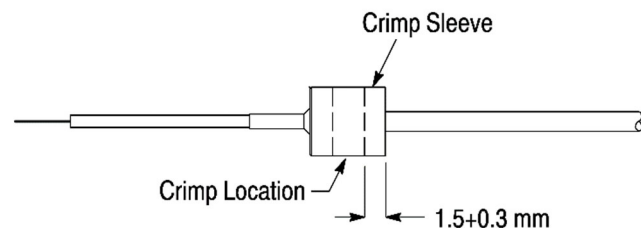

Figure 4
1. Slide the crimp support (large inside diameter end first) over the cable strength members until it butts against the jacket. See Figure 4, Detail A.
2. Fold the strength members back over the crimp support. See Figure 4, Detail B.
3. Cut a length of  $50 \pm 1$  mm of the PTFE tubing. Make sure that the cut end is free of burrs. Apply 1 or 2 drops of LOCTITE Adhesive 496 to the outside of one end of the tubing, and immediately insert that end into the small diameter end of the fiber sleeve until it bottoms. See Figure 4, Detail C. Allow the adhesive to cure for 30 seconds.
4. Using the tubing cutter, cut the cable fiber tube to the dimension shown in Figure 4, Detail D, exposing the coated fiber. Be careful not to break the coated fiber.
6. Apply 1 drop of LOCTITE Adhesive 480 to the coated fiber at the end of the fiber tube. Refer to Figure 4, Detail D.
7. Slide the fiber sleeve (with the PTFE tubing) over the coated fiber until the fiber sleeve is against the strength members. See Figure 4, Detail E. Make sure that the adhesive wicks into the tubing. If it does not, slide the fiber sleeve back, and apply another drop of LOCTITE Adhesive 480 to the coated fiber.
8. Slide the crimp sleeve (large diameter end first) over the PTFE tubing and approximately halfway over the crimp support. Trim the strength members flush with edge of the crimp support. See Figure 4, Detail F.
9. Continue sliding the crimp sleeve onto the crimp support until it stops. The crimp sleeve should now be bottomed against the fiber sleeve. See Figure 4, Detail G.
10. Place the crimp sleeve in the 8.6-mm hex nest of the hand tool and crimp the crimp sleeve onto the crimp support. Make sure to position the crimp sleeve in the hex nest so that the crimp will locate within the dimension shown in Figure 4, Detail G.